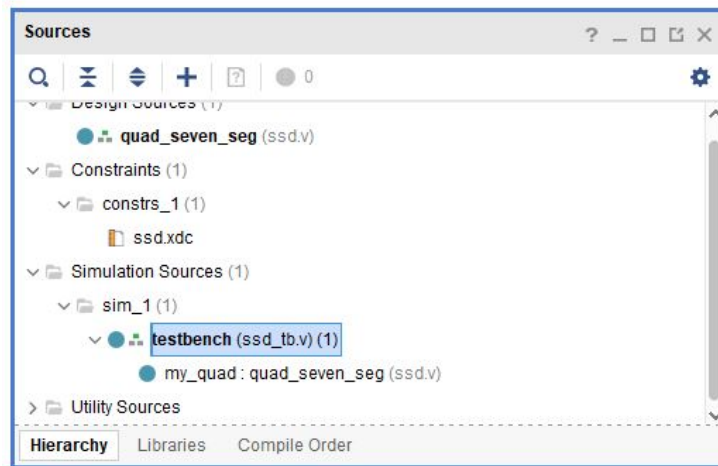

Figure 9: Simulation Sources
- 3.4 Select the *Sources* tab and expand the *Simulation Sources* group as shown in **Figure 9**. The *ssd_tb.v* file is added under the *Simulation Sources* group.